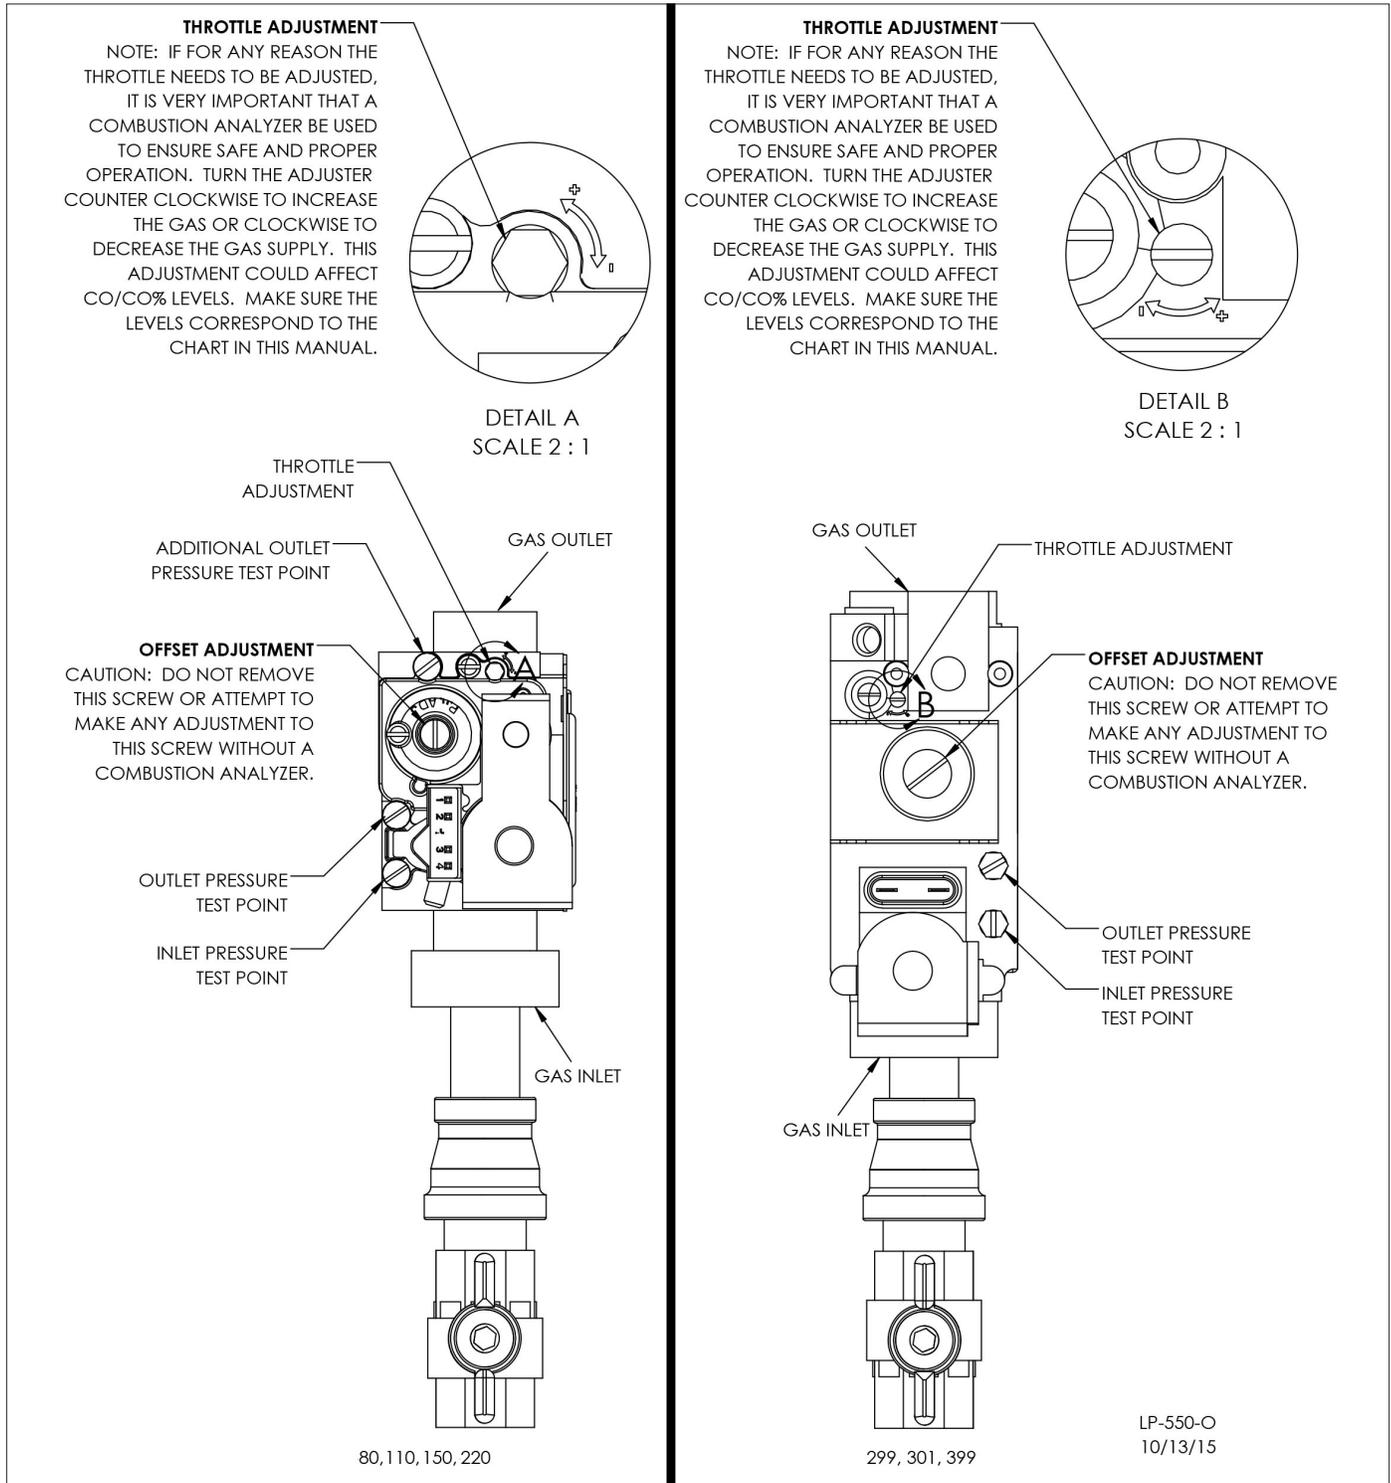

Figure 30 - Gas Valve
- Loosen the pressure tap with a small screwdriver. Refer to Figure 30 for location.
- Each unit is equipped with a needle valve that will accept a 5/16 ID hose to connect to a digital manometer or liquid gauge to measure incoming pressure from 0-35" w.c. See Figure 30.